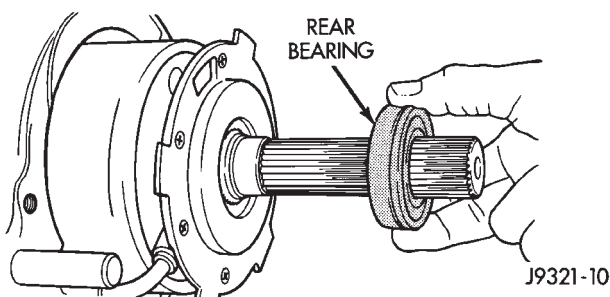

Fig. 90 Rear Bearing Installation
- (2) Insert oil pickup tube in pump (Fig. 90).
(3) Install rear bearing on mainshaft (Fig. 90). Locating ring groove in bearing goes toward end of mainshaft.